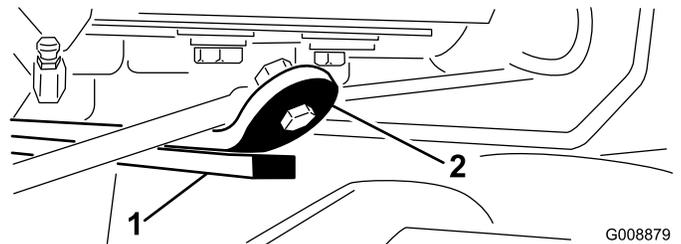

Figure 13
3. Start the engine, raise the cutting units, and check to make sure that the clearance between the wear strap on the top of the rear cutting unit wear bar and the bumper strap is 0.02 to 0.10 inches (0.51 to 2.54 mm) (Figure 13).